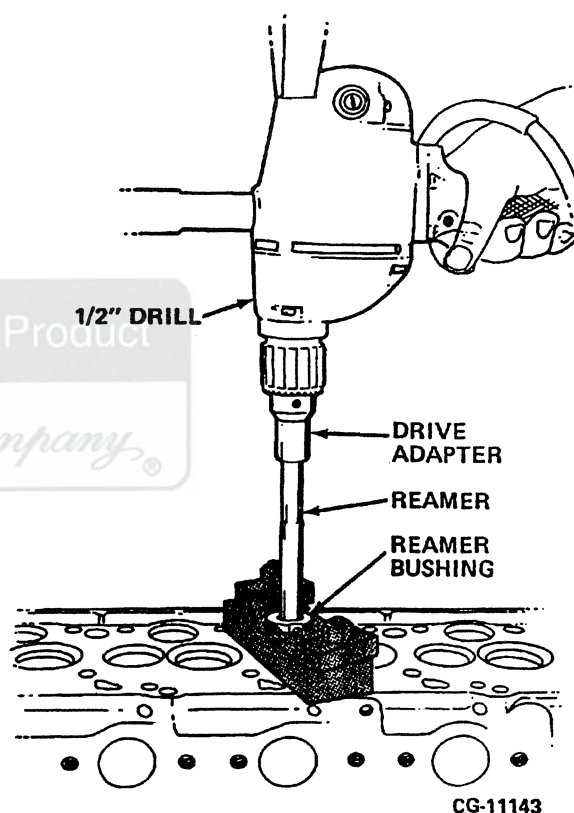

Figure 3.39. Reaming Valve Guide Bore in Cylinder Head
14. Attach the drive adapter to a 1/2" drill and ream through the cylinder head. Refer to Figure 3.39.